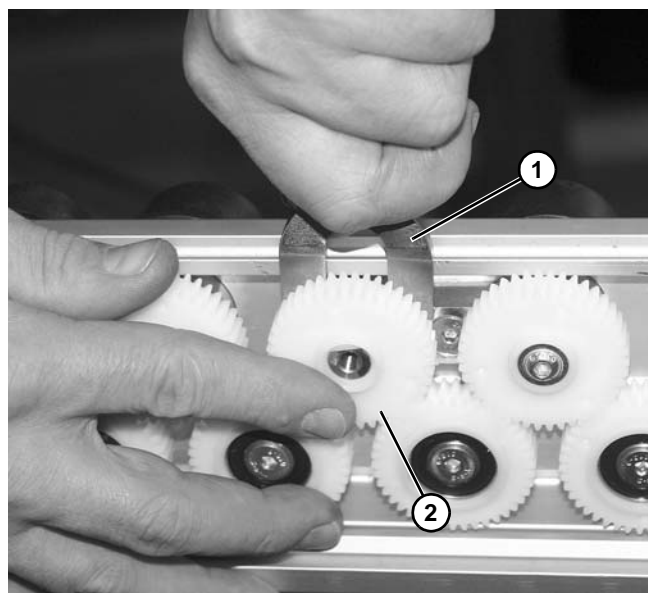

Figure 36
4. Install opposite end of sprocket removal tool, part number 400289 (**Figure 36, item 1**) to pry gear (**Figure 36, item 2**) from roller shaft.